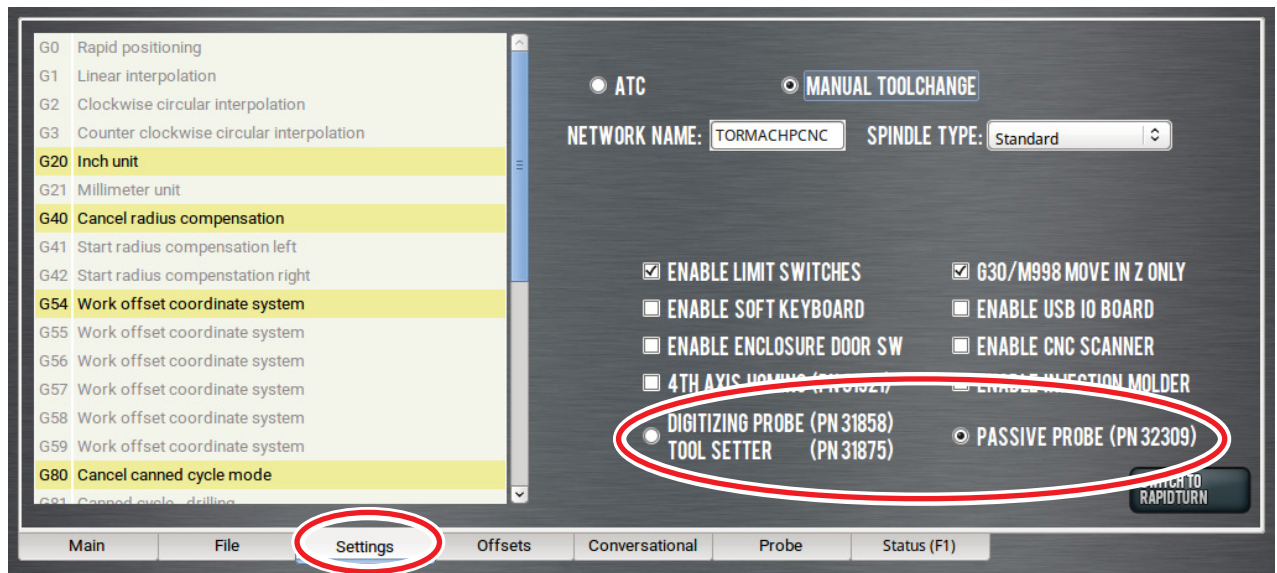

Figure 8.19
1. Click on the *Settings* tab (see **Figure 8.19**).